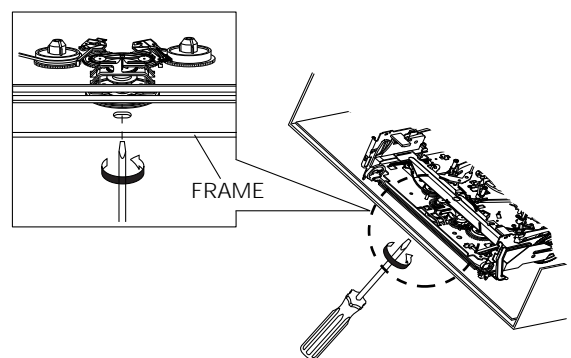

Fig. 1-33
- 3) When Slider S, T are approached in the position of unloading, rotate holder Clutch counterclockwise after inserting screw driver in the hole of frame's bottom in order to wind the unwound tape. (Refer to Fig. 1-33)